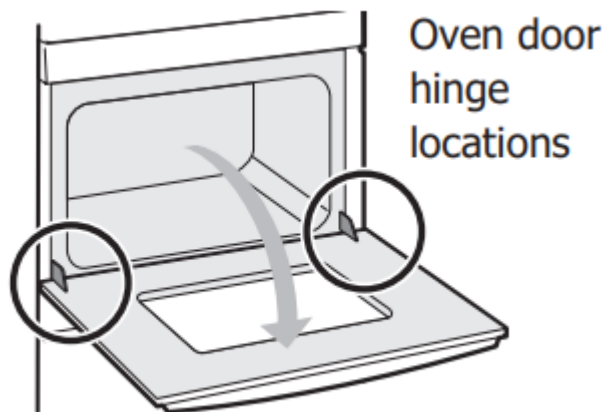

Figure 29: Door hinge location
3. Fully open the oven door, horizontal with floor (Figure 29).